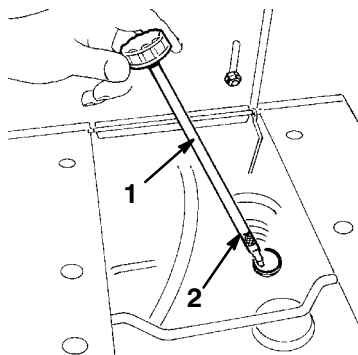

Figure 12
2. Clean around the oil dipstick (Fig. 12) so dirt cannot fall into the filler hole and damage the engine.
3. Unscrew the oil dipstick and wipe the metal end clean (Fig. 12).
5. Unscrew the dipstick and slowly pour 80% of the specified amount of oil into the filler hole (Fig. 12). Check the oil level; refer to Checking the Oil Level, page 22, steps 3-4.